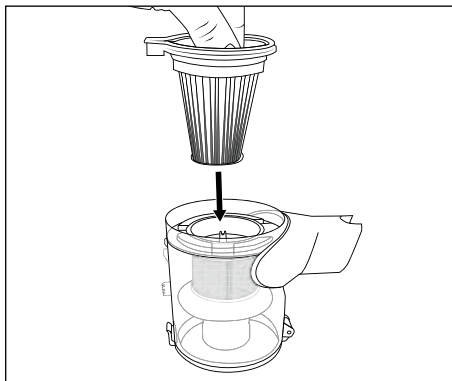
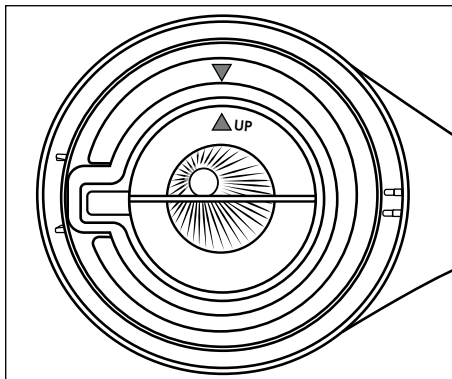

Fig. 23
Fig. 24
- 8) Insert the HEPA filter **6** into the stainless steel filter **11** (see Fig. 23). Make sure that the two arrow markings in the HEPA filter **6** and in the dust container **7** are aligned with each other (see Fig. 24).